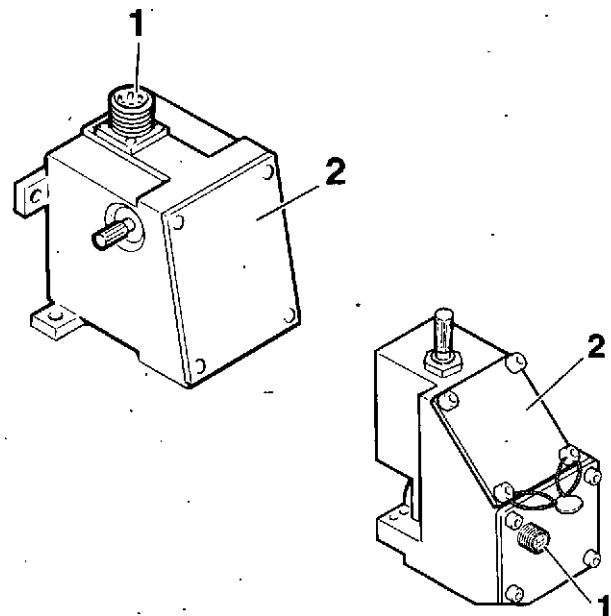

Fig. 7. Actuators, type ACB225 and ACB275
1. Remove the cover from the actuator (pos. 2, fig. 7).